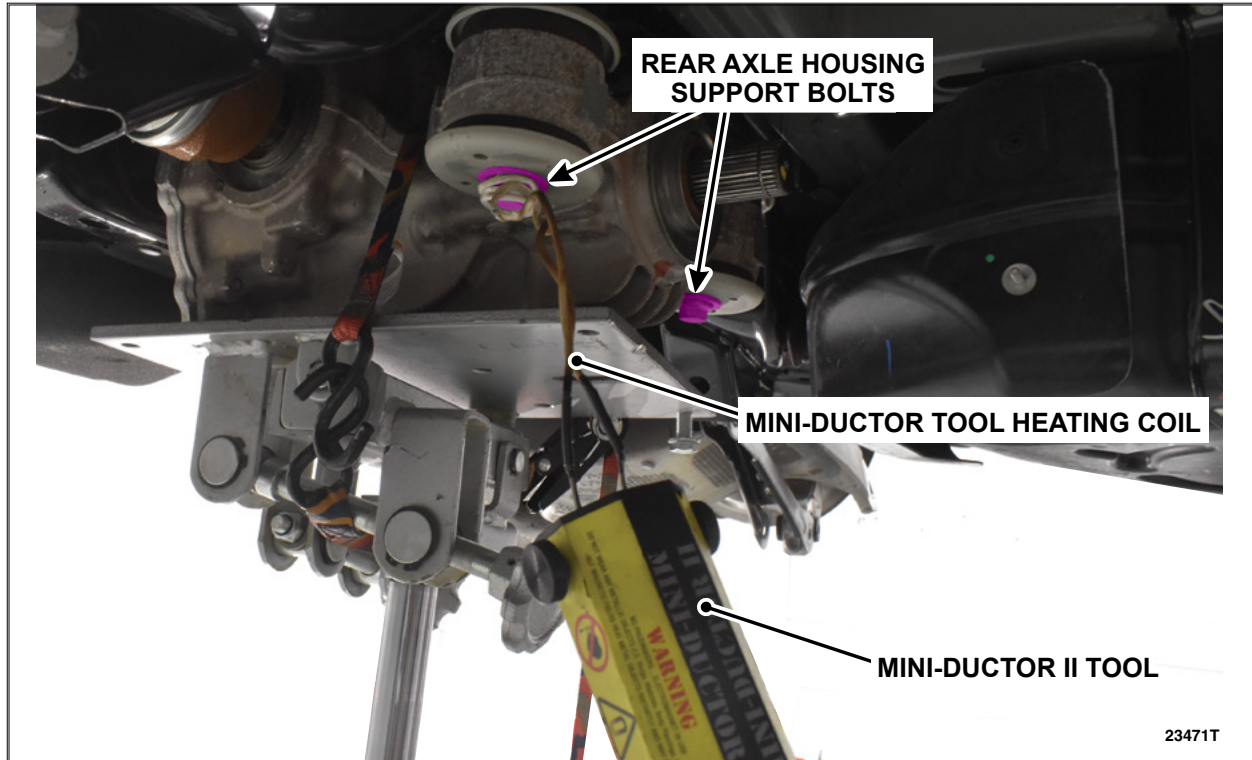
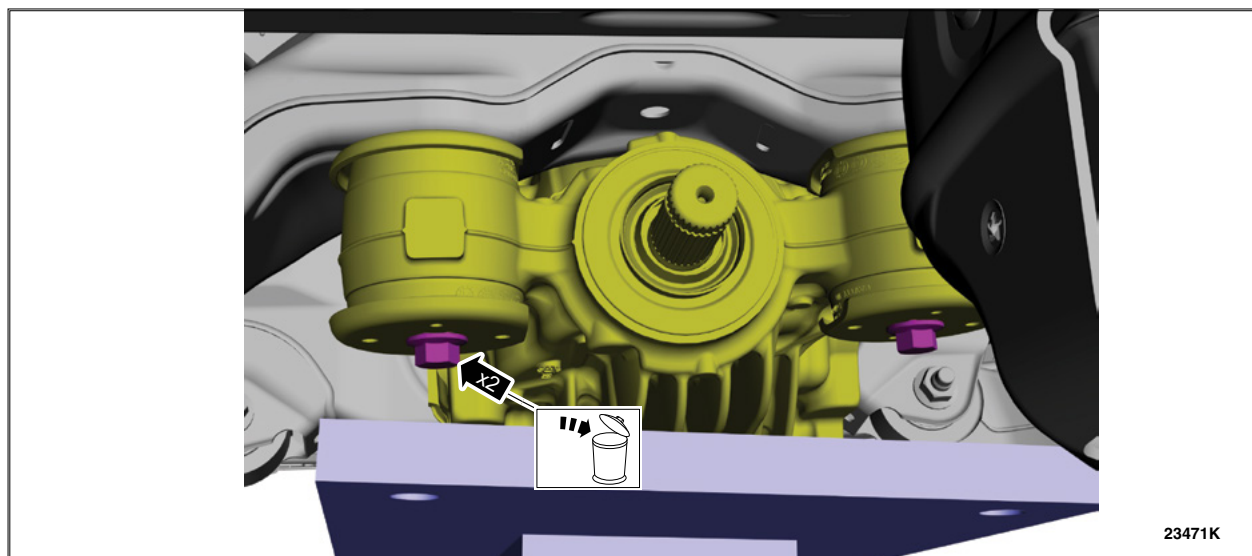

FIGURE 12
FIGURE 13
19. Using a flameless heat tool, such as the Rotunda Mini-Ductor II (part number IDIMD-700) or equivalent, heat up both front rear axle housing support bolts, as shown in Figure 12. Using a breaker bar, loosen both bolts. Then remove and discard both rear axle housing support bolts. See Figure 13.